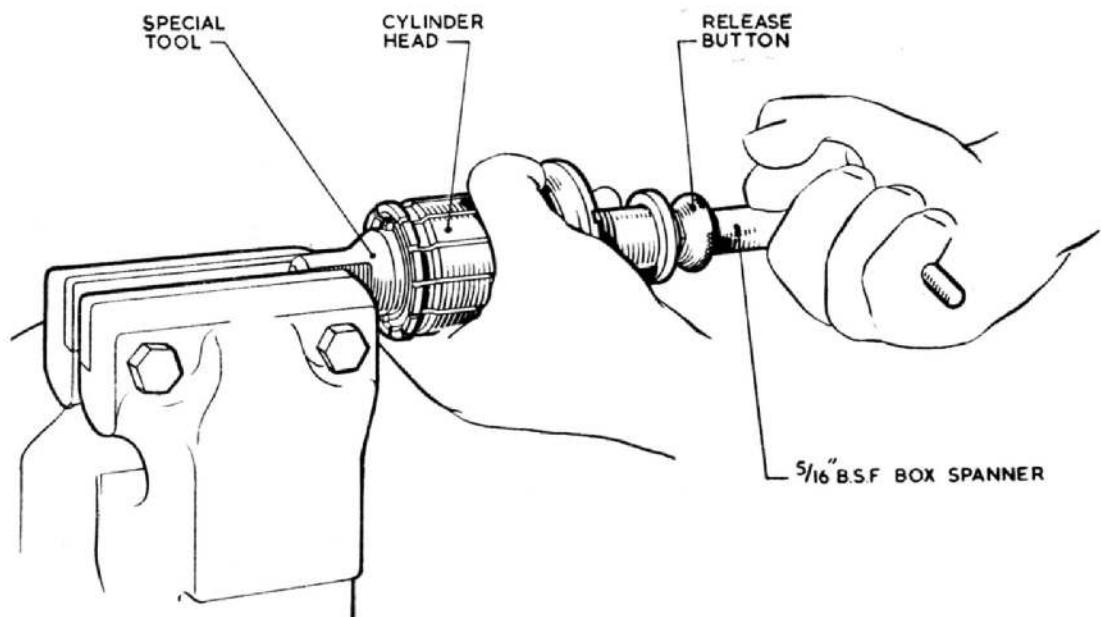

Fig. 7. Dismantling release piston
- (2) Remove the lock-nut in the release button with a $\frac{5}{16}$ in. B.S.F. box-spanner, at the same time restraining the release piston from turning by engaging the special tool in the slots provided (*fig. 7*).
- (3) Pull off the release button; the release piston and spring can then be withdrawn from the cylinder head.